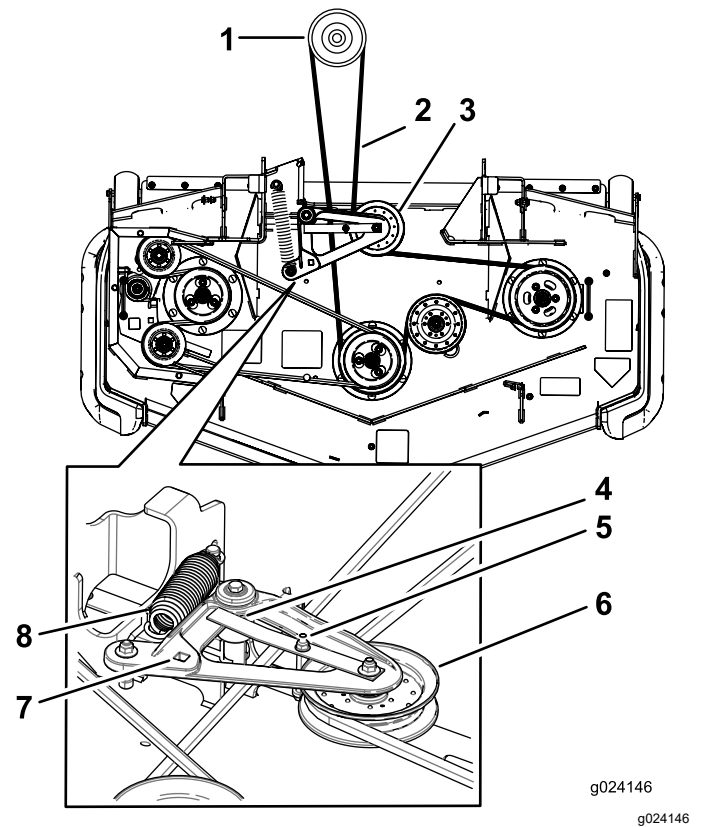

Figure 107
5. Remove the floor pan and insert a ratchet into the square hole in the deck idler (Figure 107).
6. Rotate the deck idler clockwise, lift up on the belt-guide tab (rear-discharge machines only), and remove the mower belt (Figure 107).